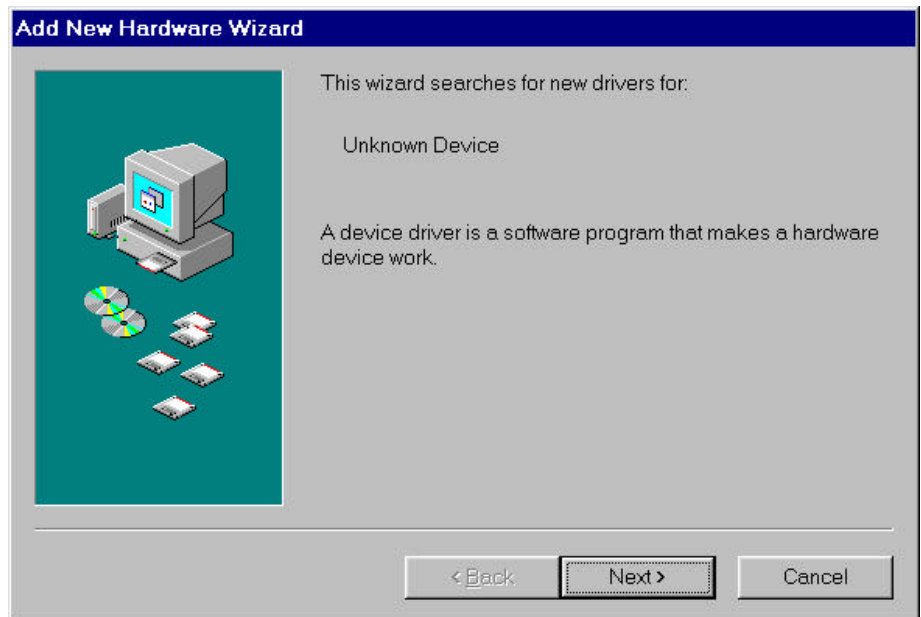

Figure 1. Add New Hardware Wizard
2. Power on the PC and start Windows 98. This will activate the Windows 98 “Add New Hardware Wizard” as shown in figure 1. Click Next.